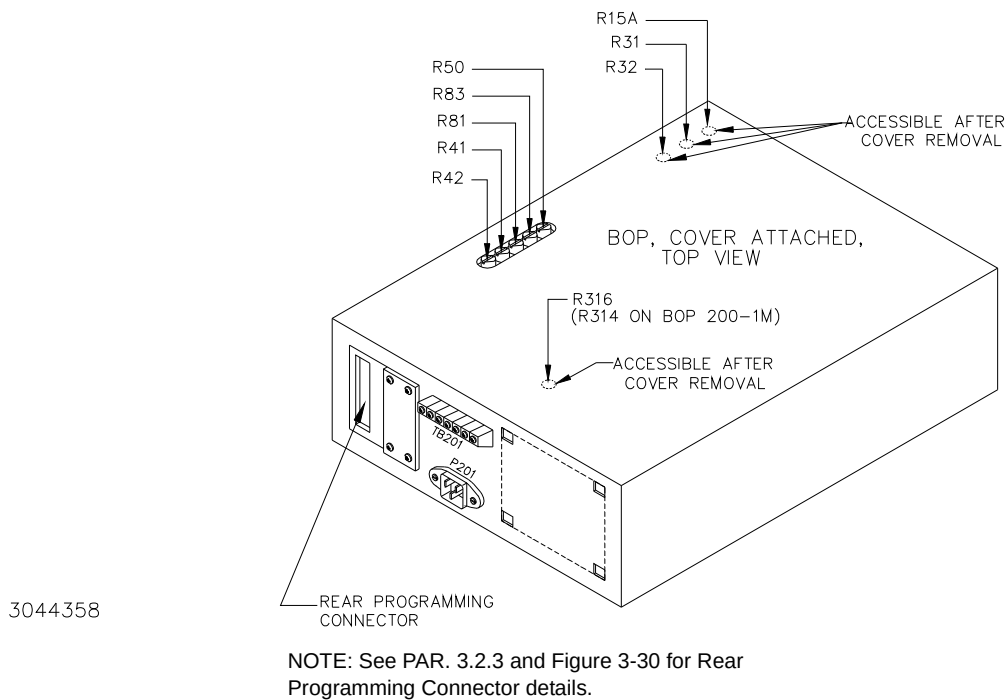

FIGURE 4-1. LOCATIONS OF ADJUSTMENT AND CALIBRATION CONTROLS
Calibration and adjustment procedures for the BOP are listed in Table 4-1. The locations of all internal controls are illustrated in Figure 4-1. Unless otherwise specified, procedures apply to both M and D suffix models as well as ML/DL and MC/DC options.
See Figure 4-1 for location of adjustment controls. For complete calibration of the unit it is recommended that the adjustments be done in the order presented.
3. Locate the calibrating controls R31 (+10V) and R32 (–10V). See Figure 4-1 for location. Turn on BOP.
5. Locate the Preamplifier “A” Zero control R41 (see Figure 4-1).
5. Locate the Preamplifier “B” Zero control R42 (see Figure 4-1).
4. Turn BOP on and locate the Voltage Channel Zero Adjustment (R81, see Figure 4-1).
3. Locate AMMETER ZERO control (R50, see Figure 4-1) and turn BOP on.
5. Locate Current Channel Zero Adjustment (R83, see Figure 4-1) and turn BOP on.
5. Turn BOP on. Using the Voltage Programming Input terminals (24, Figure 2-1), program the unit using a triangular voltage source (Function Generator) producing a 20V p-p, 250 Hz triangular wave. Referring to Figure 4-3, observe the output Signal on the scope, and adjust R15A Linearization control (see Figure 4-1) until the non-linearity in the ramps of the triangular wave disappears.